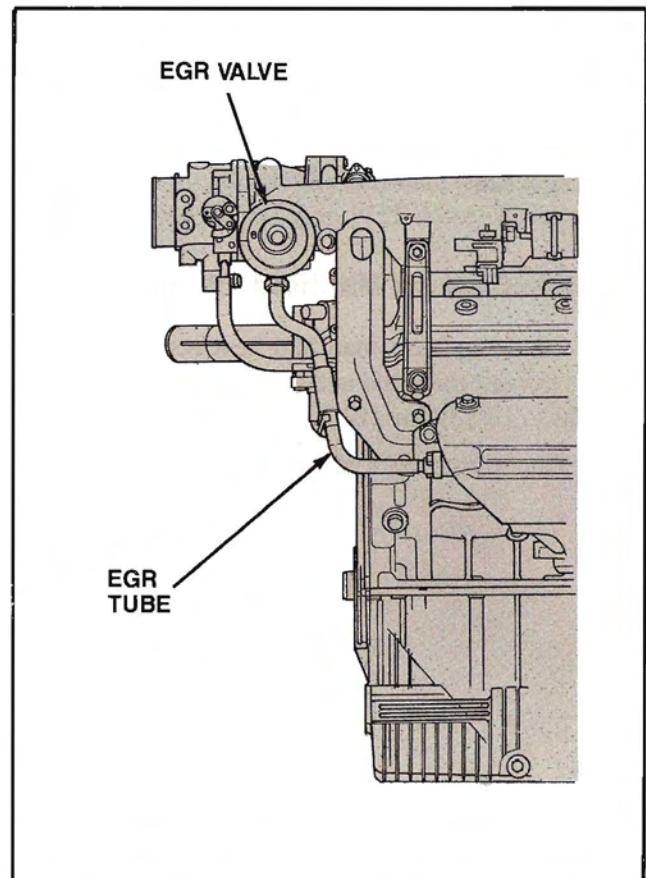

Figure 161. EGR Tube Installation
4. Connect the EGR tube with the EGR valve and tighten the nut to 25-34 N·m (18-25 lb-ft) (Fig. 161).